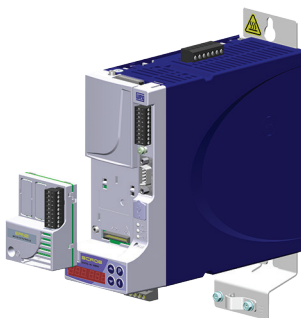

Figure 4.2: Accessory installation
3. Connect the accessory to the appropriate slot, as illustrated in Figure 4.2 on page 8.